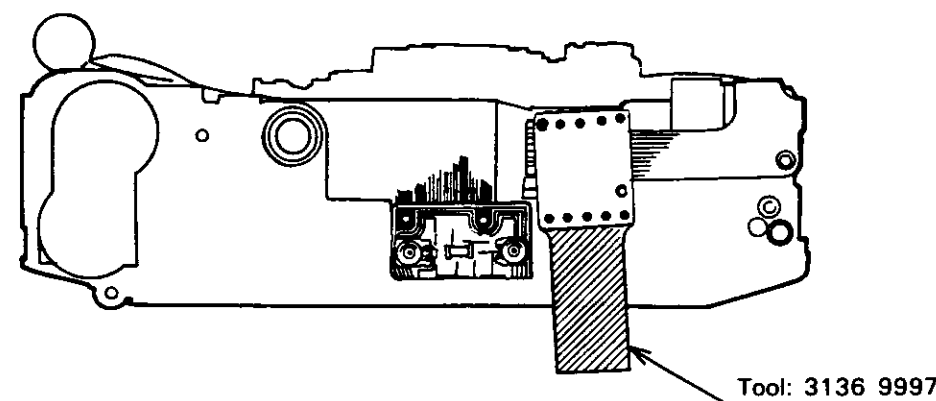

Fig. 17
- (6) Set the AE FPC on the Tool (31369997) first, then set the P FPC on it. (Fig. 17).
- (7) Solder nine portions with care.